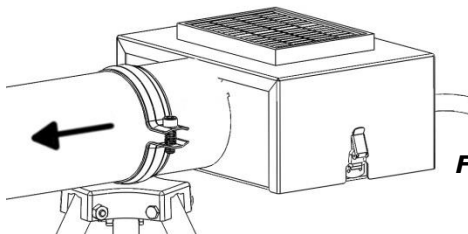

Figure 3
- c. Slide barrel of M14-1 cannon into barrel clamp. Adjust until balanced (approx. 4in from front of shroud) and level (Fig. 3).